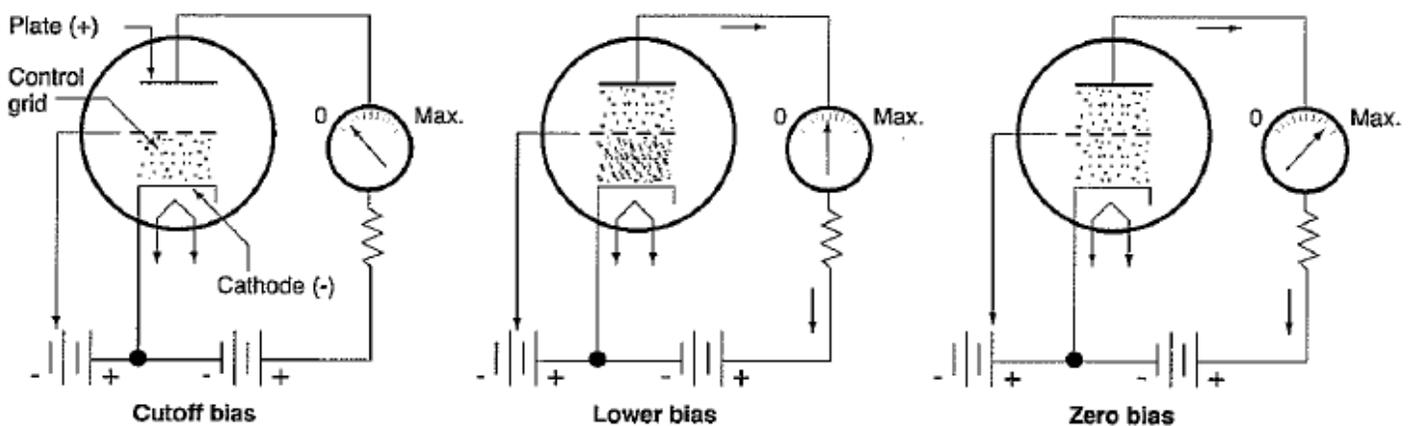

Figure 10.3: Operation of a Triode
- 10-29 The action of the grid in the triode is shown by the diagrams in Figure 10.3.
- When the grid has a lower bias applied to it, as shown in the center diagram in Figure 10.3, some electrons get through and others are repelled. The electrons that get through the grid continue to the anode, producing a small plate current.